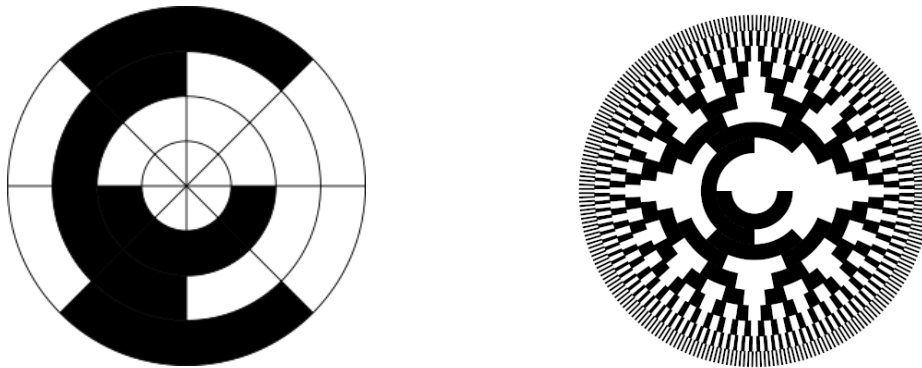

Figure 4: Code discs for a 3-bit (left) and 10-bit (right) absolute encoder
Absolute encoders function slightly differently than incremental encoders to measure absolute angular position instead of the relative position. Absolute encoders provide a unique code for each shaft position on the encoder disc. The resolution is determined by its number of code rings, which corresponds to the number of bits required to represent the on (1) and off (0) pattern in each segment. An n -bit absolute encoder has n code rings, which can encode 2^n segments, shown in Figure 4 below.